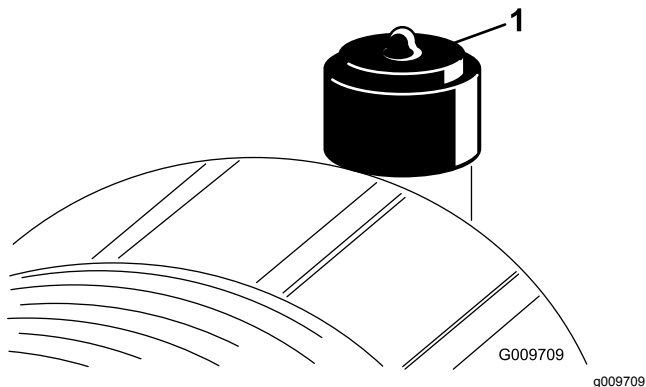

Figure 26
Service the air cleaner filter only when the service indicator (Figure 26) requires it. Changing the air filter before it is necessary only increases the chance of dirt entering the engine when the filter is removed.
6. Reset the indicator (Figure 26) if it shows red.